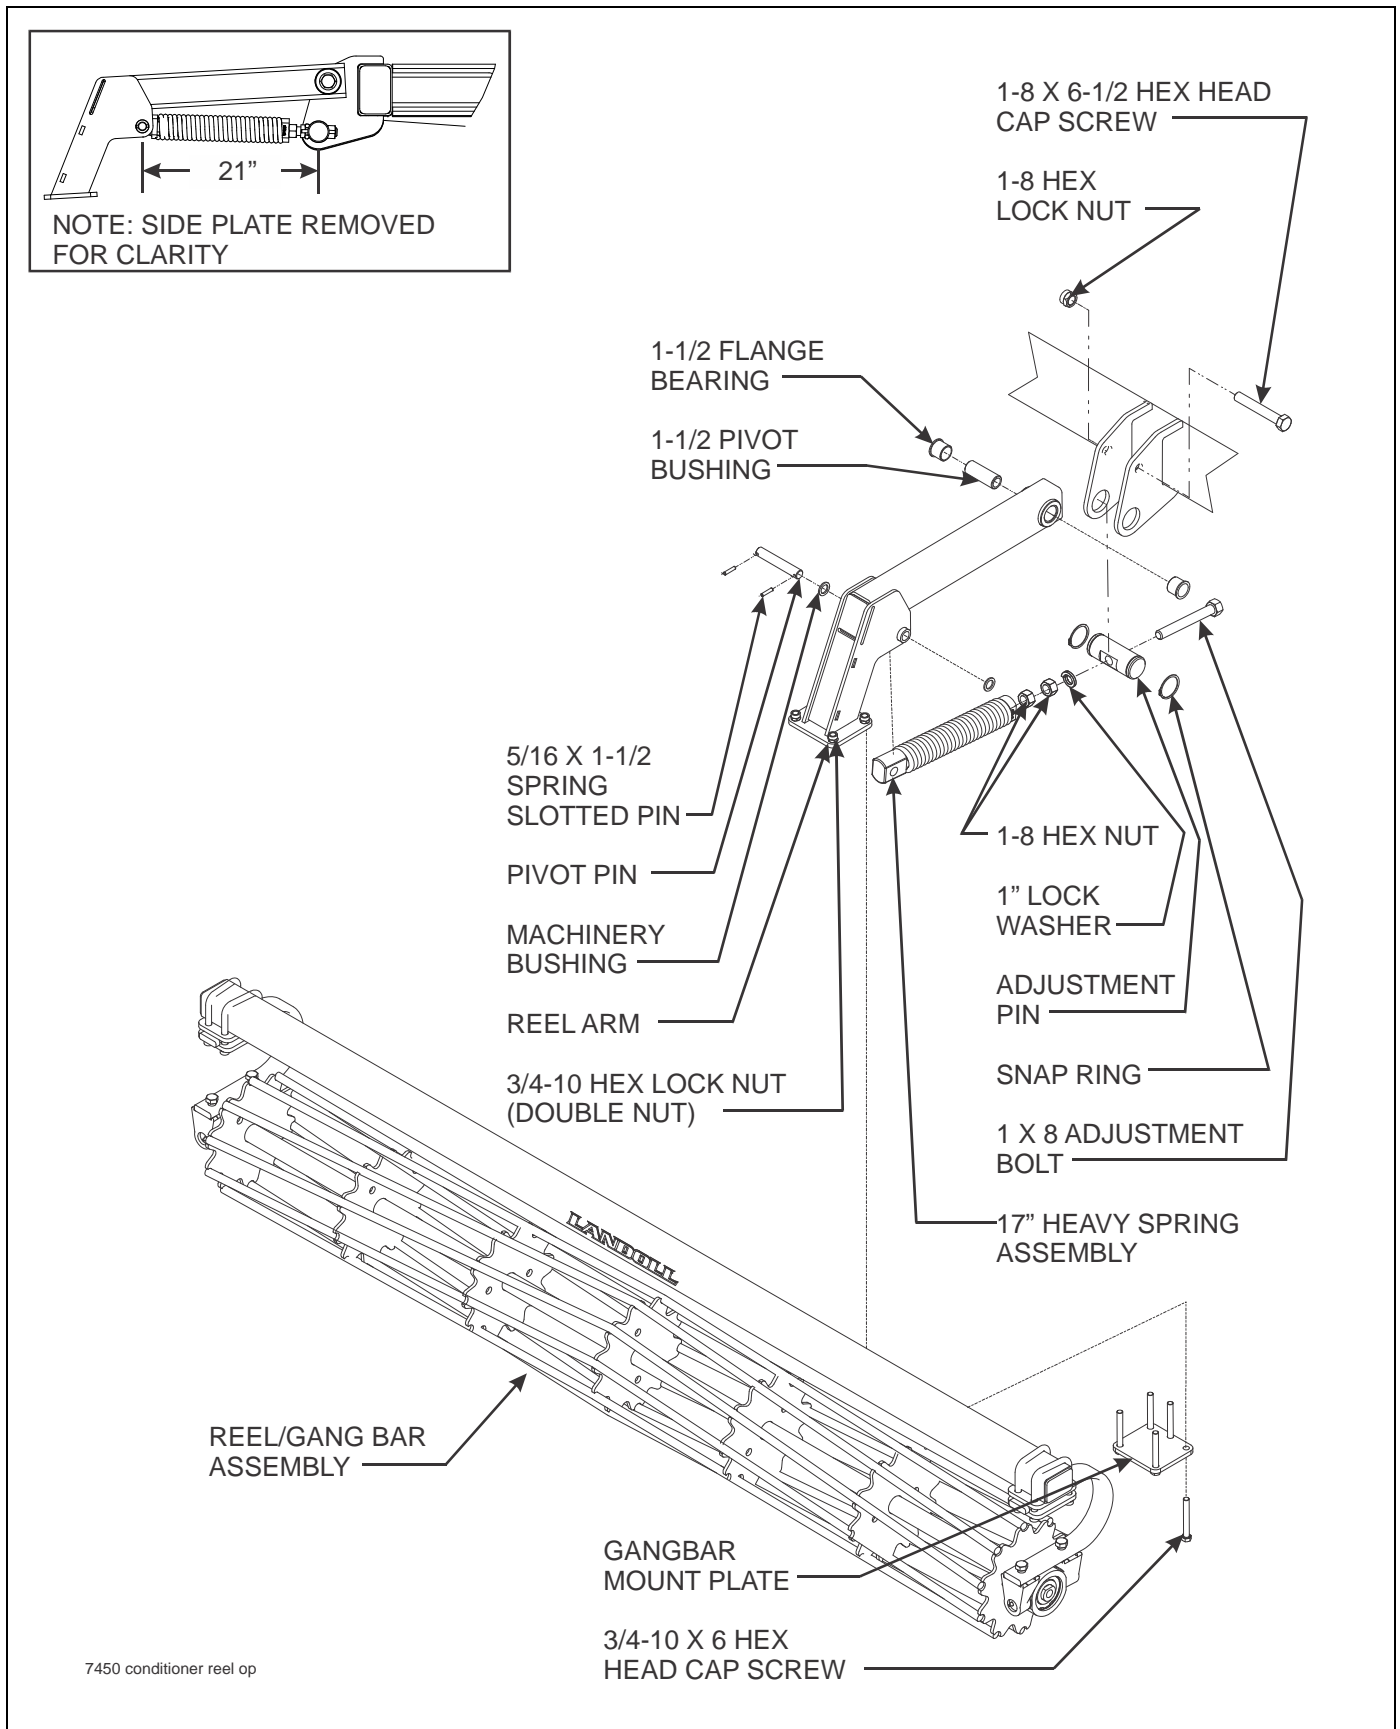

Figure 3-31: Finishing Conditioner Reel Installation (Center Arm for the Three Arm Reel) (Option)
1. Attach adjustment pin to center arm location on center frame with snap rings. Assemble 1 x 8 adjustment bolt through pin with 1" lock washer and (2) 1-8 hex nuts along with the 17" heavy spring assembly (**See Figure 3-31.**)
6. Assemble 17" heavy spring assembly to reel arm using 1" pivot pin, 1" machinery bushings, and 5/16 x 1-1/2" spring slotted pins. Set pin centers to 21" dimension as shown in **Figure 3-31**. On the outer wings, the reel arm stop will replace the machinery bushings on the reel arm. The reel arm stop is to prevent the outer reels from hanging down so far while the machine is being folded.